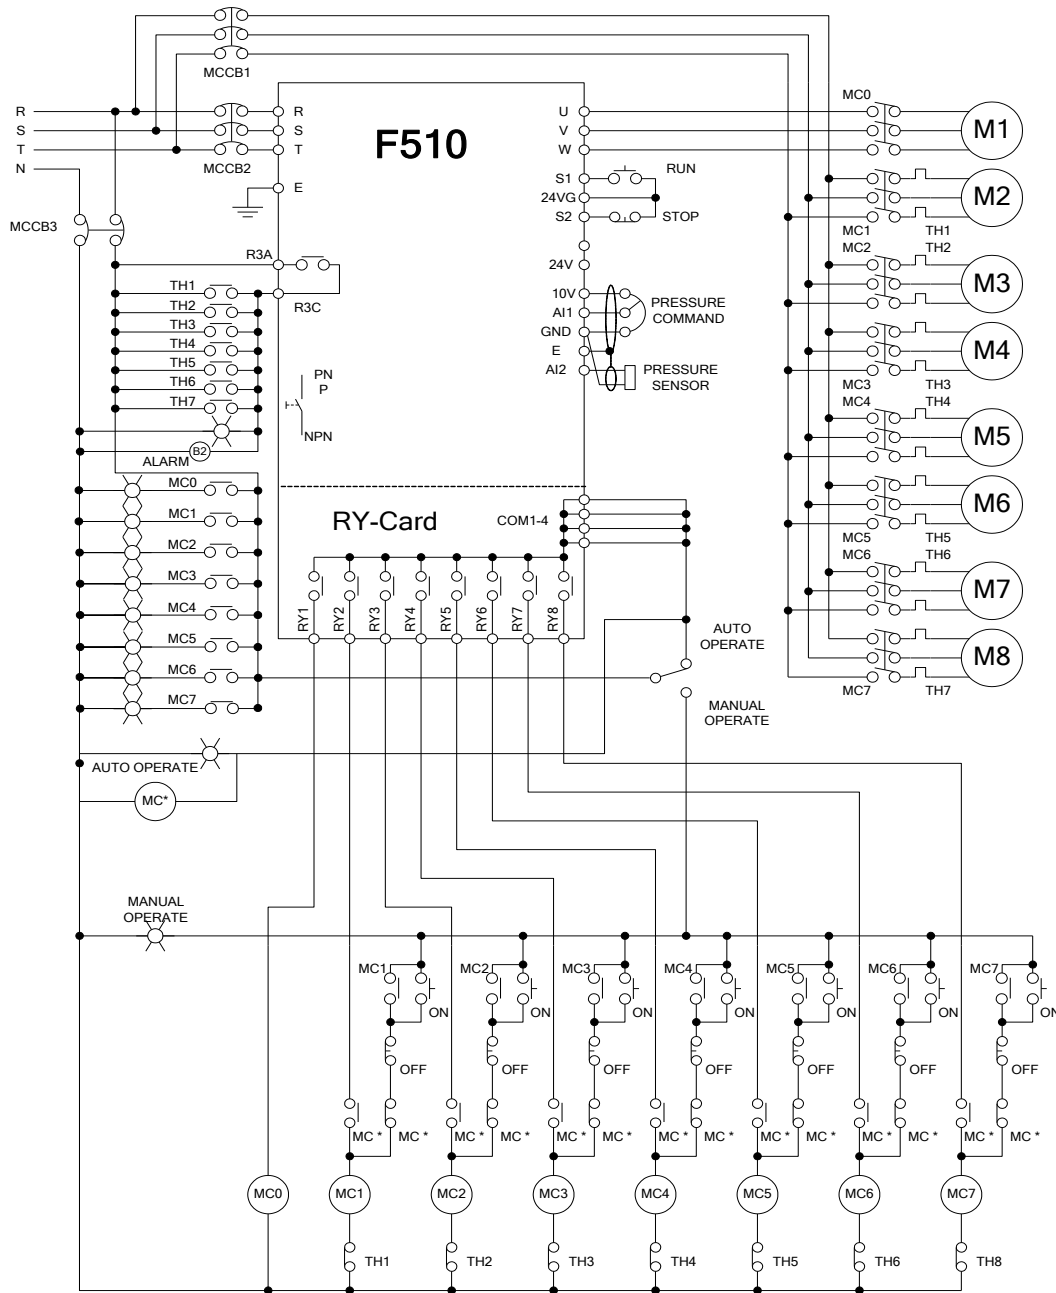

Figure 4.3.126 Fixed mode inverter pump wiring using 1 to 8 option card
- The following examples are the timing chart for switching ON/OFF relays in fixed mode. Set 24-00=1, 24-06=0, enable the PID function and Relay1 to Relay 4 on the 1 to 8 relay card. Motor 1 is connected to inverter and motor 2~4 are connected to AC power supply. MC of AC power supply is controlled by the external circuit control. Wiring diagram refer to Fig. 4.3.126.